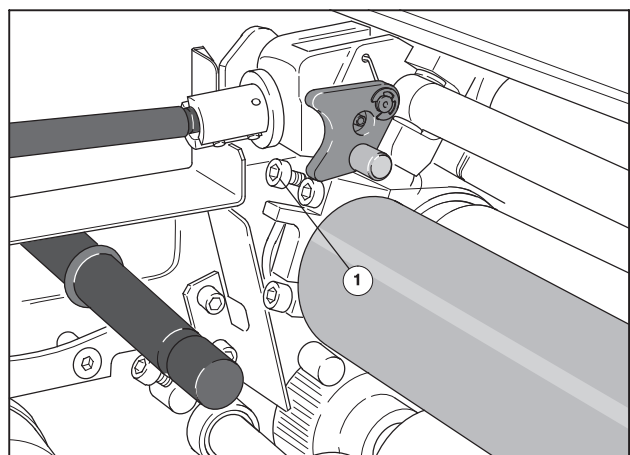

Fig. 35 Adjusting the dampening roller to the water pan roller
1. Turn the adjusting screws (Fig. 35/1) until the contact area is uniformly 2.5 - 3.5 mm across the entire roller length.